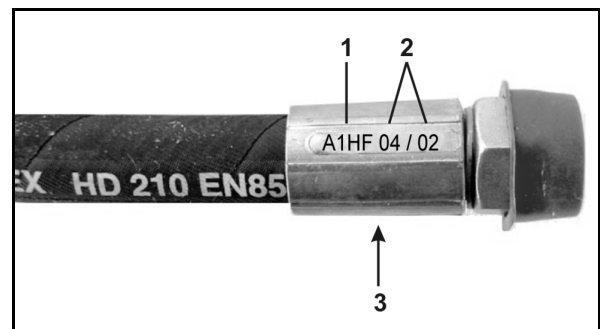

Fig. 27
2. Remove the bolts (Fig. 27/1) and exchange the spreading vanes.
1. Remove the expansion pin (Fig. 27/2) from the agitator head.